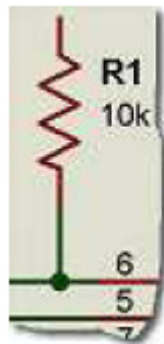

Figure 4.13 – Wiring onto an existing wire.
– When you terminate the connection on another wire a junction dot will be placed automatically to complete the connection as shown in Figure 4.13.